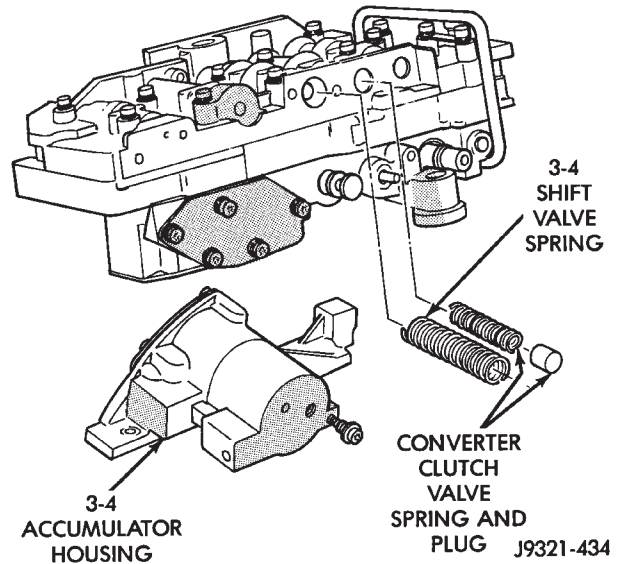

Fig. 64 Accumulator Housing, Valve Springs And Plug
(25) Remove left-side screw and remove 3-4 accumulator housing from valve body (Fig. 64).